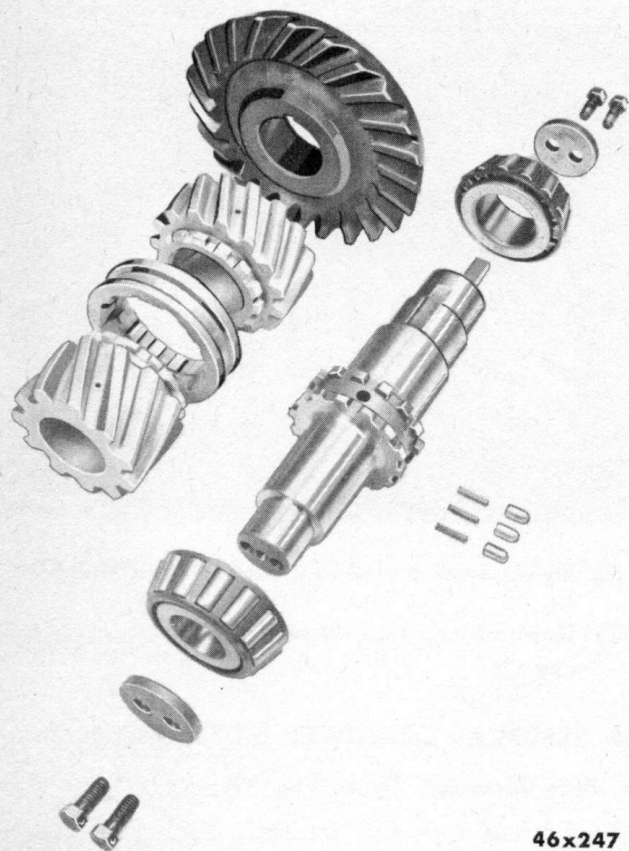

Fig. 80—Cross Shaft Assembly, Showing Bearing Retaining Plates
- (1) Remove lock wire, cap screws and retaining plates.
- (2) Press cross shaft from bevel gear and bearing (Fig. 80).
- (1) Lubricate the inner bearing surfaces on the fast and slow speed spur pinions with axle lubricant.
- (2) Position fast speed spur pinion on the cross shaft with the splined teeth toward the cross shaft splines (Fig. 80).
- (3) Install key and start cross shaft and pinion in bevel gear in line with keyway.
- (4) Press cross shaft squarely into bevel gear. Gear must be firmly against the cross shaft shoulder.